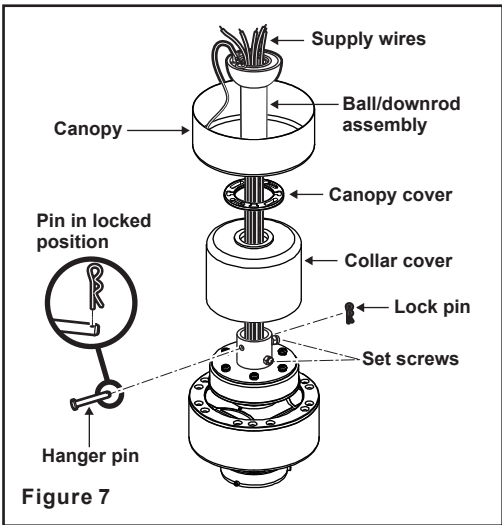

Figure 7
Step 5. Remove the hanger pin, lock pin and set screws from the top of the motor assembly. (Fig. 7)
Step 6. Route the wires exiting from the top of the fan motor through the collar cover, canopy cover, canopy and then through the ball / downrod. (Fig. 7)
Step 7. Align the holes at the bottom of the downrod with the holes in the collar on top of the motor housing (Fig. 7). Carefully insert the hanger pin through the holes in the collar and downrod. Be careful not to jam the pin against the wiring inside the downrod. Insert the locking pin through the hole near the end of the hanger pin until it snaps into its locked position, as noted in the circle inset of Fig. 7.
Step 8. Tighten two set screws on top of the fan motor firmly. (Fig. 7)